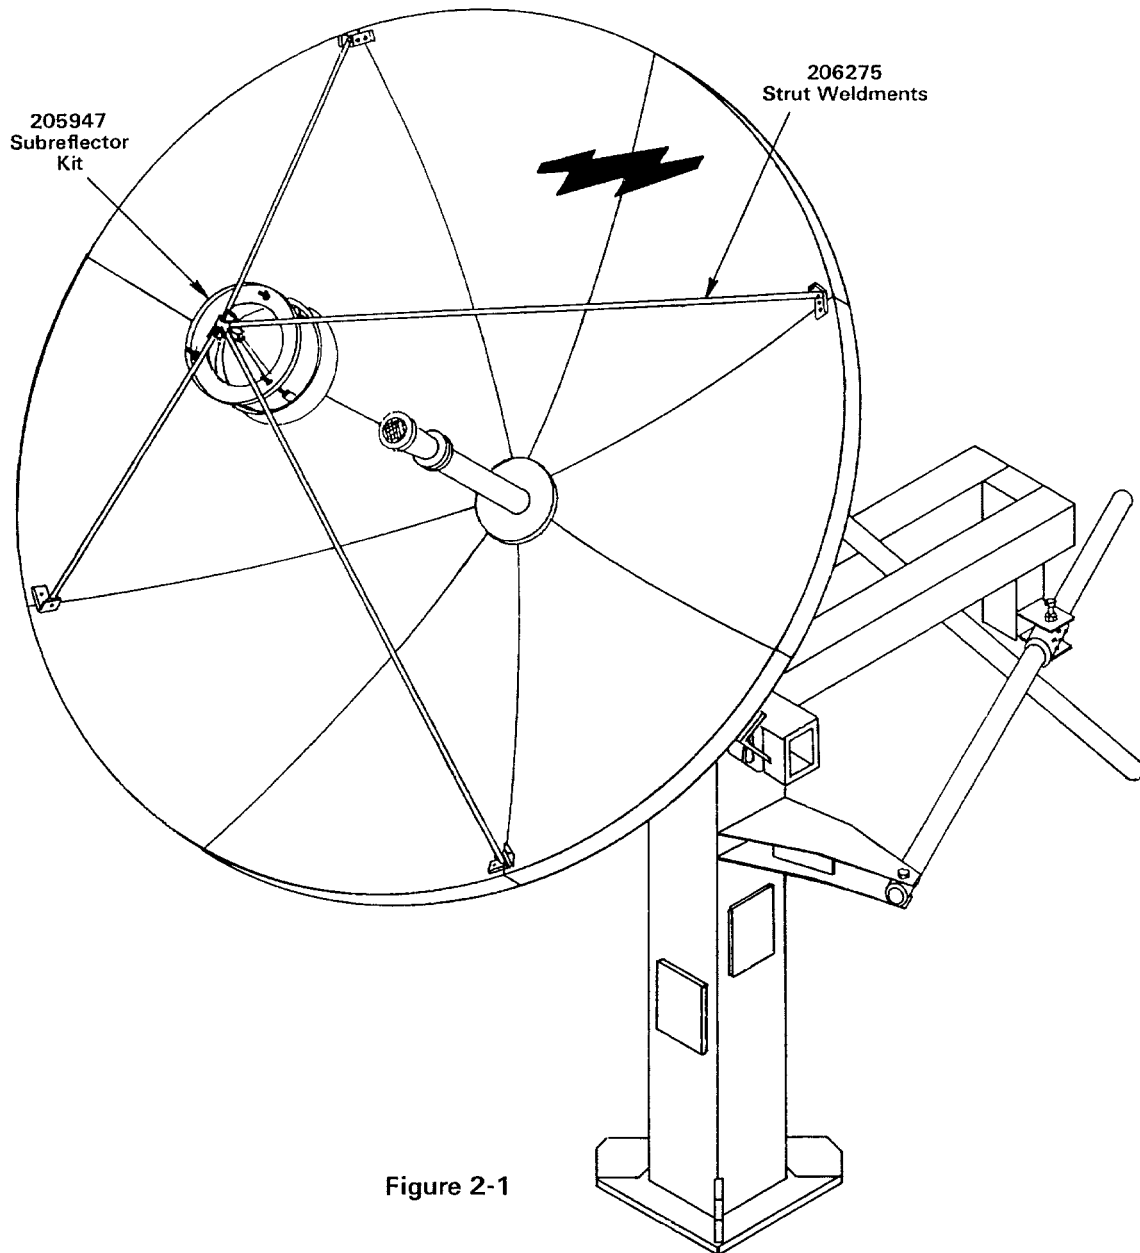

Figure 2-1
2.1 The antenna subreflector/strut kit assemblies, illustrated in Figure 2-1, comprise a significant portion of the unique dual-reflector Gregorian optic system utilized on the 4.6-meter Ku-band earth station antenna to maximize gain and ensure exceptionally high efficiency in both the receive and transmit operating frequencies.
3.2 Cut and remove all strapping, if applicable. Carefully remove all crating and interior blocking/bracing materials permitting removal of all subreflector/strut kit assembly components. Visually inspect the subreflector/strut kit assembly components for evidence of any structural component damage. The equipment complement should correspond with the components illustrated in Figure 2-1 and the tabulation given in the corresponding parts listing. Any damage or shortages will prevent satisfactory assembly and installation of subreflector/strut kit assemblies.
3.3 Figure 2-1 illustrates the assembled subreflector/strut kits with the major kit assembly components identified. Refer to this figure in addition to the individually referenced illustrations as an aid in determining component relationship during assembly.